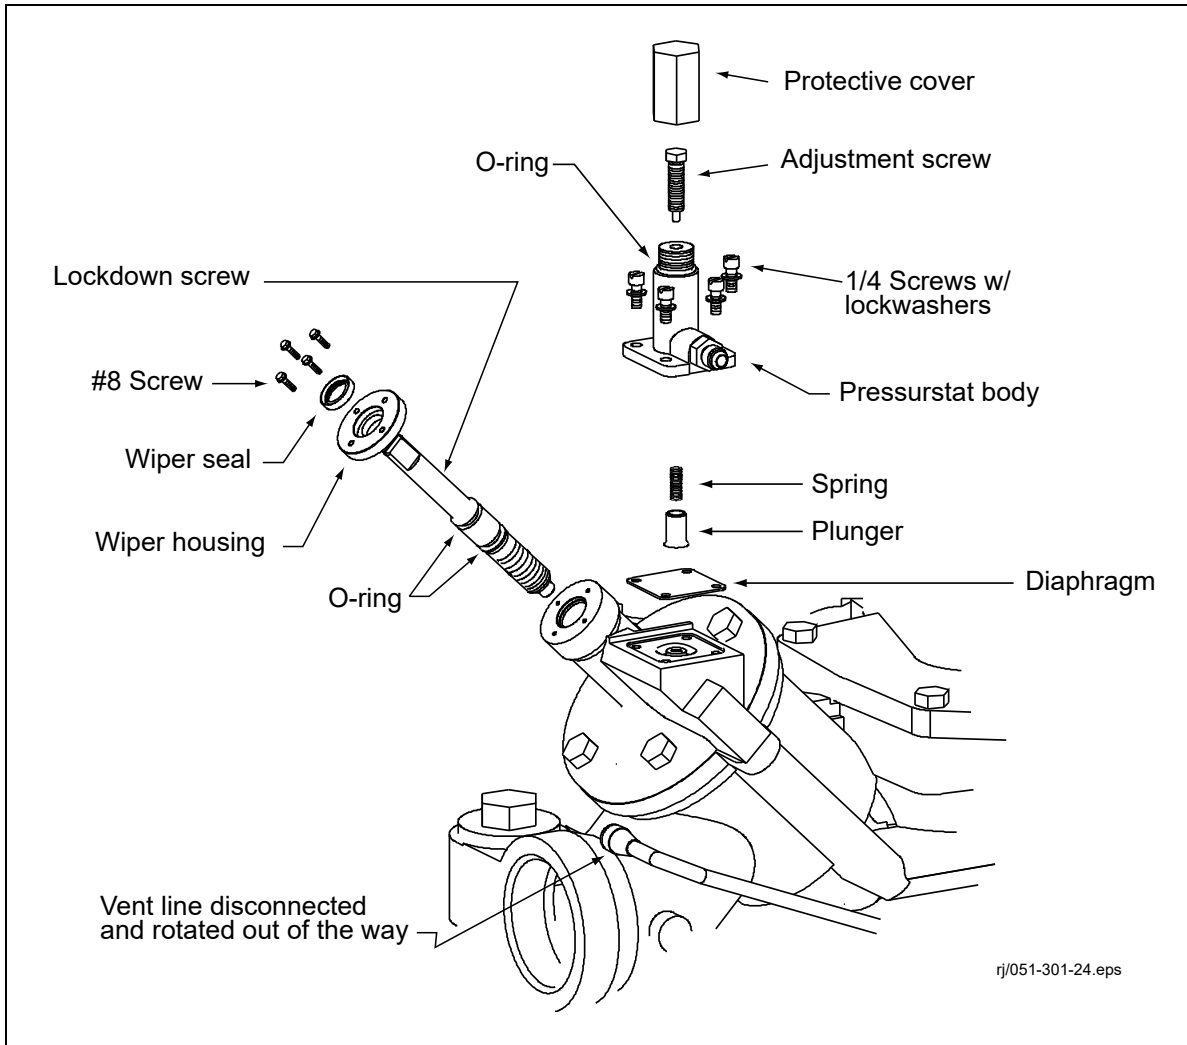

Figure 18. Pressurstat and Check Valve Lock-Down Screw Assembly
2. Lock down screw removal (see Figure 18).
- c. Using a flat piece of metal at least 1/2 inch larger than the OD of the wiper, carefully drive the new wiper into the wiper housing, orienting the wiper as shown in Figure 18.